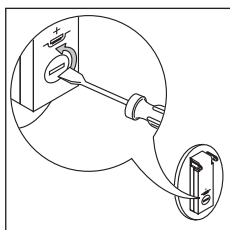

fig. 6
- Turn the battery cover on the back of the battery anticlockwise (fig. 6) until it comes free.